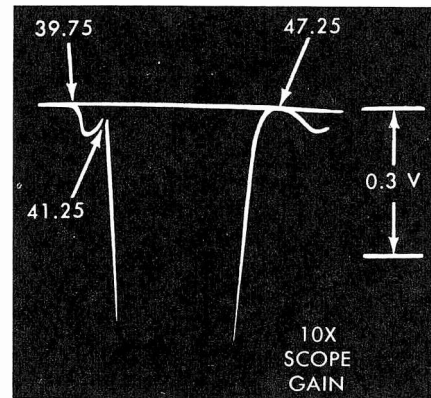
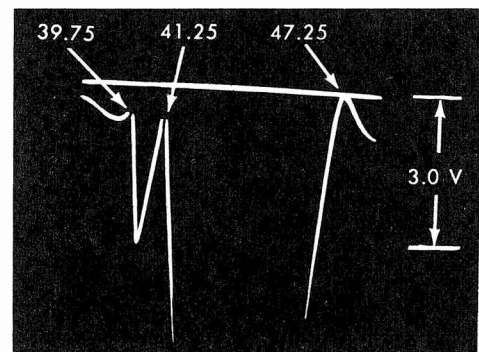
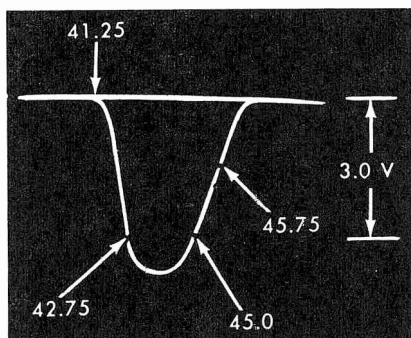
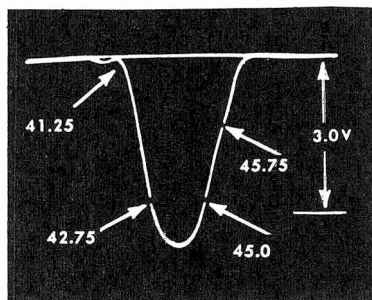

Fig. 6 Expanded View of Traps
Fig. 7 Further Expansion of Fig. 6 for Detail View of the 39.75 and 47.25 Mc Traps.
Fig. 8 Overall IF Response
Fig. 9 Overall IF Response
5. Connect the sweep generator to terminal "A". Connect terminal "F" to chassis and connect a jumper between terminal "E" and chassis. Adjust sweep to obtain a 3V.P.P. response somewhat similar to Fig. 8. Switch oscilloscope to 10X gain to "blow up" the traps, (Fig. 6).
6. Refer to Fig. 6 and adjust the 39.75 Mc and the 41.25 Mc traps for minimum marker amplitude. Disconnect the jumper between "E" and chassis. Connect this jumper between "E" and the junction of the 22 (68 in the 15K37 chassis) and 1500 ohm resistors in the cathode of the first IF. This provides an additional "blow up" of the 47.25 Mc traps (Fig. 7). In the 16K38 chassis the receiver is shipped from the factory with the adjacent channel reject switch (at the rear of the chassis) in the "out" position. For alignment, the switch should be in the "in" position. Adjust the 47.25 Mc traps (the 15K37,16K33 and 16K34 chassis have one 47.25 Mc trap) for minimum marker amplitude.
jumper between "E" and chassis. In the 16K38 chassis switch the adjacent channel reject switch to the "out" position. Adjust sweep generator for 3 volts peak to peak output. Alternately adjust the 2nd, 3rd, 1st IF and the converter plate coil until an overall response similar to Fig. 8 (Fig. 9 for the 15K37 chassis) is obtained. It will be found that the 2nd IF affects the low side (42.75 Mc) and the 3rd IF the high side of the response.